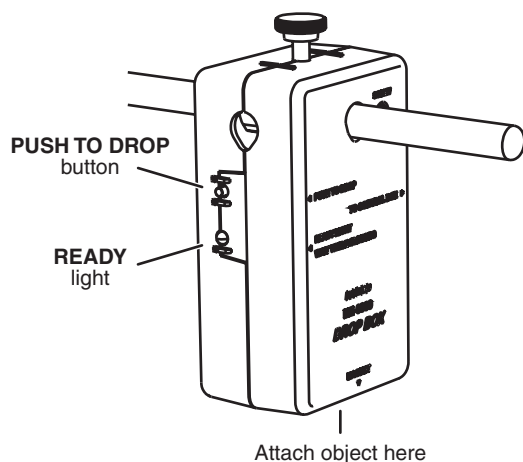
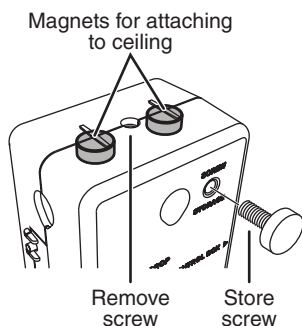

Figure 1: Drop box mounted on horizontal rod
Figure 2: Location of magnets for attaching to ceiling
4. Mount the drop box on a horizontal support rod (see Figure 1), or remove the thumbscrew and attach the drop box magnetically to a steel part of the ceiling (see Figure 2).